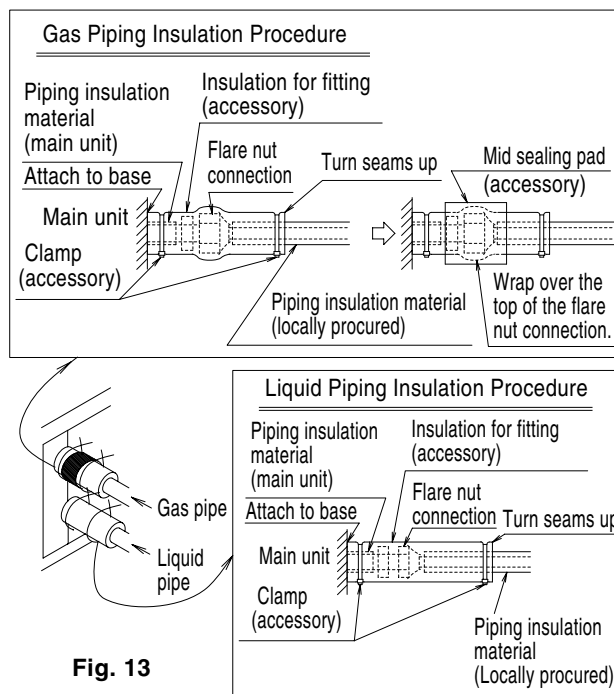

Fig. 13
- After checking the pipe-connection for gas leakage, be sure to insulate the liquid and gas piping. (Refer to Fig. 13)